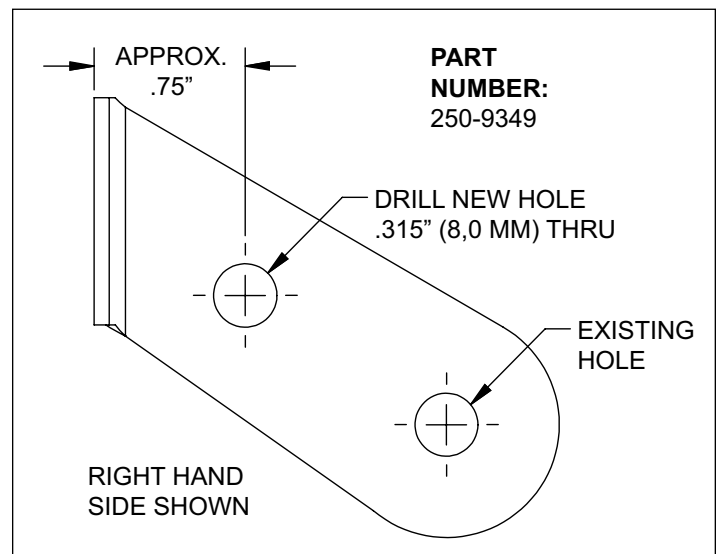

Figure 4.
STEP 7 Attach supplied brake line to caliper. **NOTE:** OEM rubber brake hoses generally cannot be adapted to Wilwood calipers. Install Wilwood's stainless steel braided flexline hose kit (17), P/N 220-12016 included with this kit (not shown). The caliper inlet fitting is a 1/8-27 NPT. Use the included steel adapter fitting at the caliper (use PTFE tape on the pipe threads of adapter fitting for proper sealing to caliper). **Ensure hoses are routed to prevent contact with moving suspension, brake or wheel components.**
•**NOTE: CRZ only.** A new .315" hole needs to be drilled in the hose brackets (P/N 250-9349/50) as shown in Figure 4.